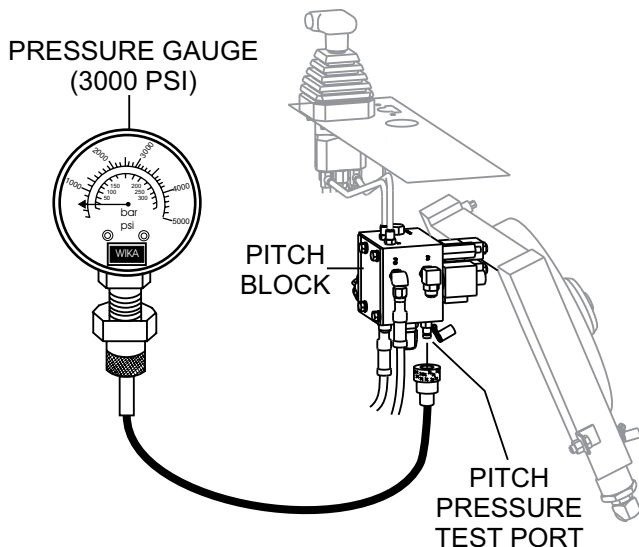

Figure 51. Pitch Pressure Test Port
1. Install 3000 PSI range pressure gauge to pitch pressure test port on pitch block, (Figure 51).